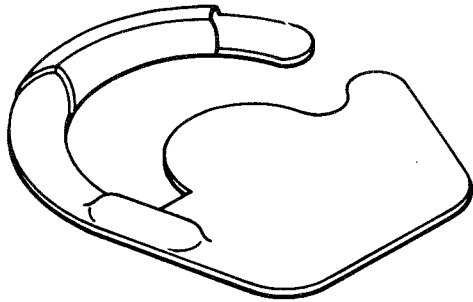

Fig. 26—Typical Ring Seal
3.35 Ring seals, formed from sheet aluminum, (Fig. 26) are used to seal the coin receptacle cover to the cash box.